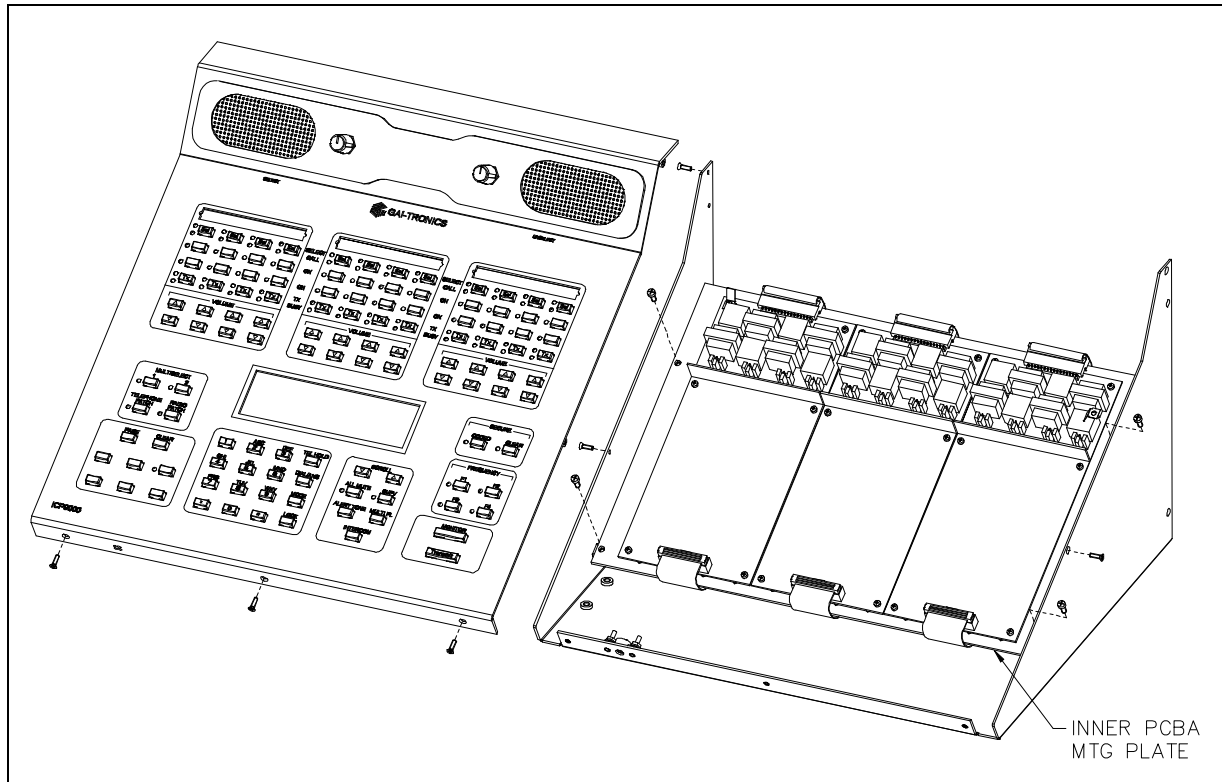

Figure 2.
3. Remove the 7 screws securing the top panel and gently lift the cover exposing the attached speaker cable and master display cable. See Figure 2.
5. Remove the 4 screws attaching the mounting plate to the base. This allows you to remove the mounting plate giving you access to the main control PCBA. See Figure 2.